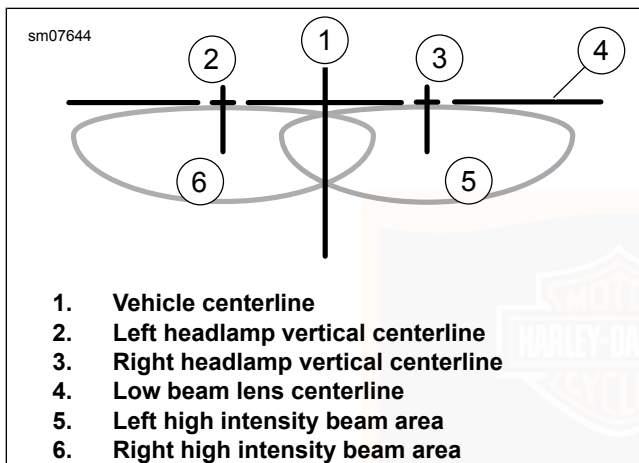

Figure 96. Headlamp Beam Pattern: Dual LED
- See Figure 96. The headlamps are aligned when the light beam hot spots are located at or below line (4) and centered on lines (2, 3).
5. See Figure 96. Cover the right headlamp. Adjust left headlamp so the top of the high intensity zone (6) is at or below horizontal line (4) and centered under the left centerline (2).
6. Cover the left headlamp. Adjust right headlamp so the top of the high intensity zone (5) is at or below horizontal line (4) and centered under the right centerline (3).